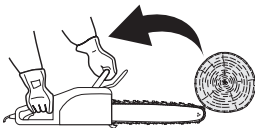

Fig. 23
In some cases, contact with the tip of the guide bar (12) may cause a lightning-fast reverse reaction, kicking the guide bar up and back toward the operator (Figs. 23, 24, 25).